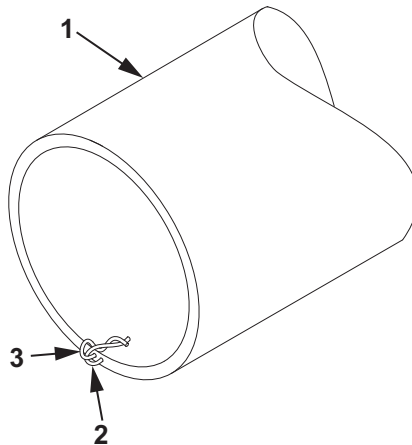

Figure 21. Hose Assembly Repair.
1. Place drip pans under hose assembly (Figure 21, Item 1) to be repaired.
2. Inspect hose assembly (Figure 21, Item 1) to identify the extent of damage to the hose assembly (Figure 21, Item 1).
3. Using a knife and hacksaw, remove the damaged portion of the hose assembly (Figure 21, Item 1) by cutting the hose assembly (Figure 21, Item 1) on both sides of the damaged area. Discard damaged hose (Figure 21, Item 1).
4. Identify the ground wire (Figure 21, Item 2).
5. Using needle nose pliers, pull the ground wire (Figure 21, Item 2) approximately 1/2 in. out of the hose assembly (Figure 21, Item 1) so the ground wire (Figure 21, Item 2) is loose.
6. Using needle nose pliers, cut a piece of copper wire (Figure 21, Item 3) approximately 1-1/2 inches long.
7. Insert the piece of copper wire (Figure 21, Item 3) into the hose assembly (Figure 21, Item 1) approximately 1/2 in. away from the ground wire (Figure 21, Item 2).
8. Using needle nose pliers, wrap the copper wire (Figure 21, Item 3) and ground wire (Figure 21, Item 2) together, forming a pigtail.
9. Using needle nose pliers, carefully bend the ground wire (Figure 21, Item 2) inside the hose assembly (Figure 21, Item 1).